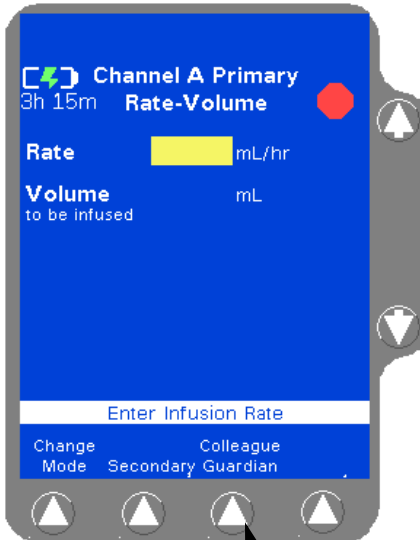

Figure 4-32 Colleague Guardian Soft Key
- From the Programming screen, press the **Colleague Guardian** soft key (Figure 4-32).